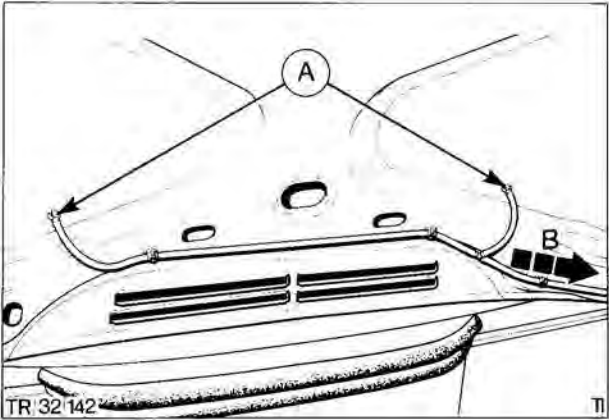

Fig. 41. A – Nozzles
2. Disconnect and remove all windscreen washer hoses noting locations routing and fixings, Fig. 41.